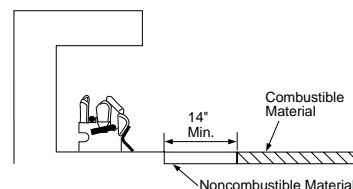

Figure 8 - Minimum Fireplace Clearances If Installed at Floor Level
A. Clearances from the side of the fireplace cabinet to any combustible material and wall should follow diagram in Figure 8.
- If installing appliance on the floor level, you must maintain the minimum distance of 14" to combustibles (see Figure 8).